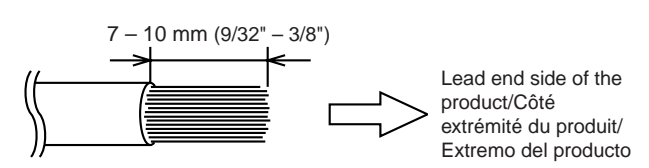

Fig. 3
- Remove the insulation cover (insulation material such as vinyl, etc.) of the wire leads by about 7 – 10mm (9/32 – 3/8") from the lead end to exposure the conduction leads. (Fig. 3)